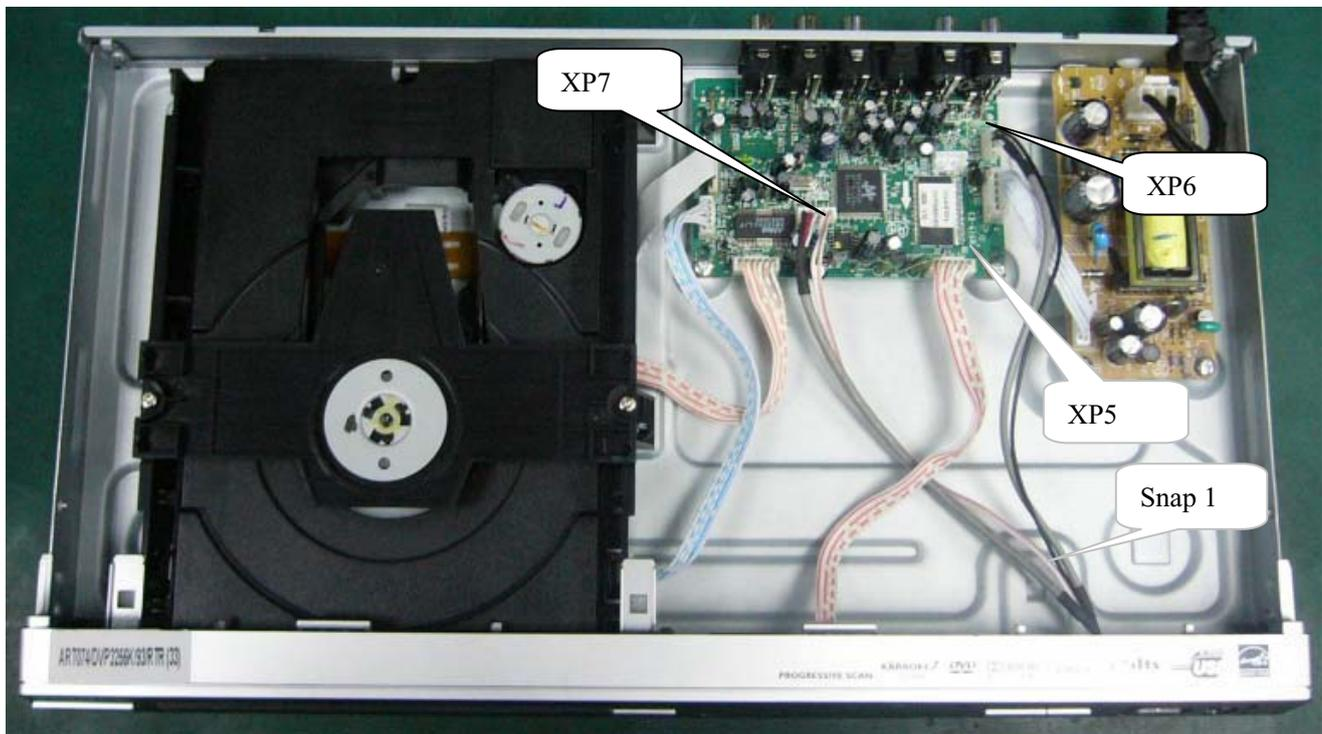

Figure 4
**Step4:** Dismantling Front Panel, disconnect the connectors (XP5, XP6, XP7), then release the snaps on the both sides of Front Panel and bottom cabinet, then gently pull the Panel out from the set. (Figure 4 & 5)